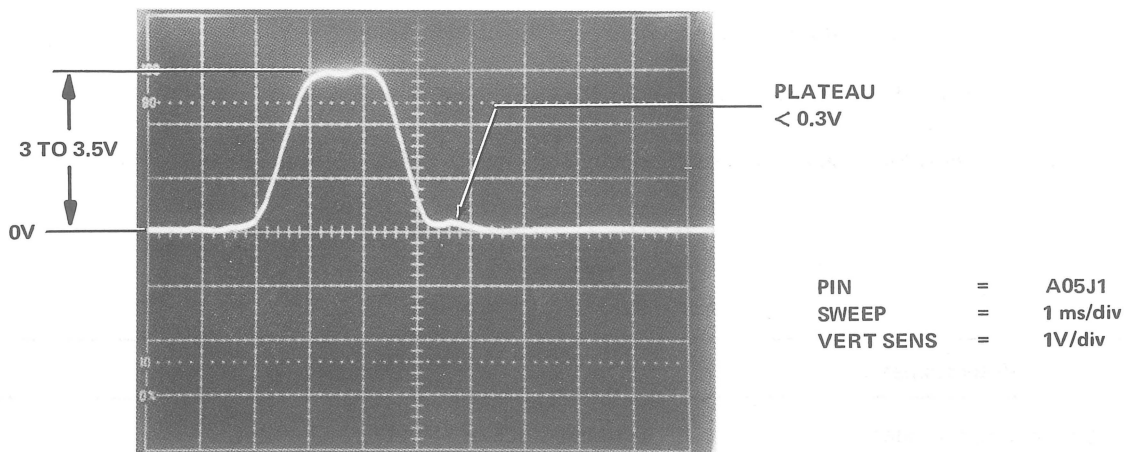

Figure 5-17 Outer Limit Waveform
- c. Set the scope vertical sensitivity to 1V/div and observe A05J1 (LIMIT) for a scope display as illustrated in Figure 5-17. The waveform peak amplitude must be 3 to 3.5V with a minimum level of 0V. In addition, the voltage plateau immediately following the trailing edge must not exceed 0.3V. If not, perform the Static Limit Adjustment procedure (Paragraph 5.4.2.2).